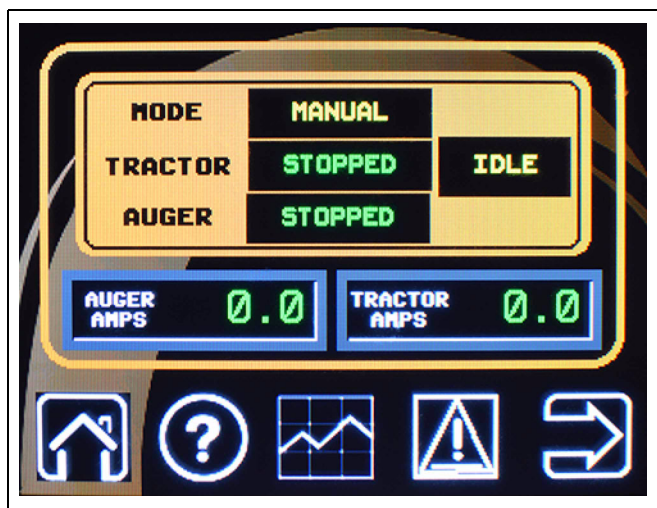

Figure 10F
1. Press the **Amp Trend** icon. (See Figure 10F.)